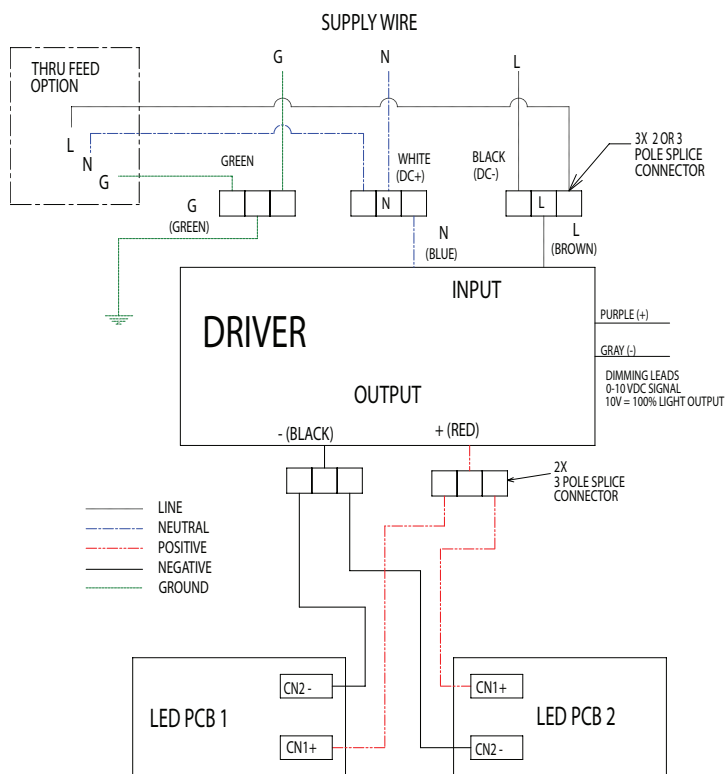

Figure 15
1. Open driver cover by loosening the four (4) #10-32 x .75" stainless steel cover screws (see Figure 12). All components in the fixture are pre-wired so only line in, neutral and ground need to be connected in the fixture to the lead wires (or terminals) per the wiring diagrams (see Figures 15 and 16) using methods that comply with all applicable codes. Terminate the equipment grounding conductor (green) first, the common (white) next, and finally, the line voltage (black) last. For DC voltage applications, connect the positive (+) lead to the white wire and the negative (-) lead to the black wire. Tighten all electrical connections. Note - Standard openings are 3/4" NPT.
4. Reinstall the driver cover and tighten all four (4) cover mounting screws 32 in.-lbs. (3.6 N-m).
6. For the through feed option, use the factory supplied fish line to pull through wire conductors or cable for wiring to driver or to daisy chain multiple fixtures (maximum of five (5)).